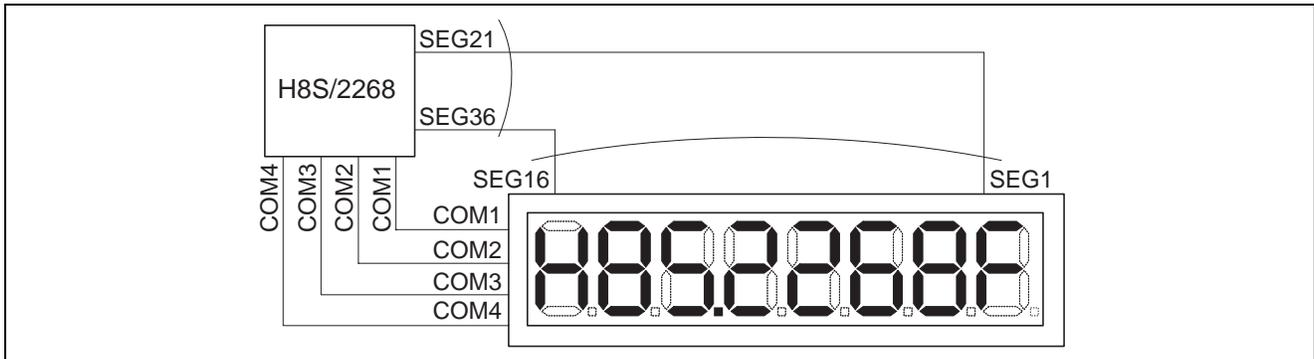

Figure 1 Example of LCD Module Connections
- (1) This sample task shows how to use the LCD controller circuit and LCD driver circuit of the H8S/2268 to display information on an LCD module.
- (2) Four common signals and 16 segment signals are used for 1/4 duty display.
- (3) A sample LCD module connection diagram and LCD display example are shown in figure 1.